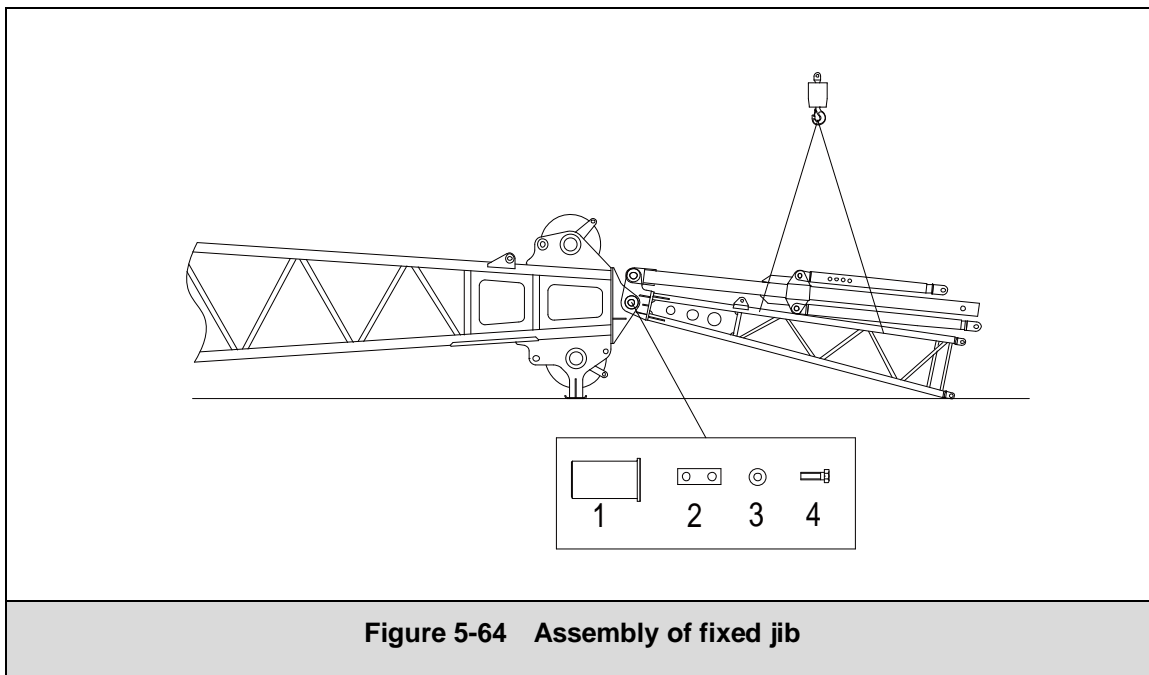

Figure 5-64 Assembly of fixed jib
Connect the assembly unit to main boom head with pin spindles (1) and secure them with retaining plate (2), washers (3) and bolts (4). Refer to figure 5-64.